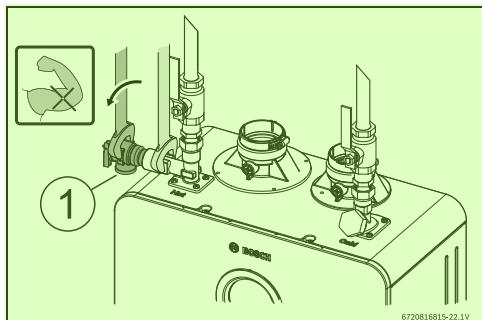

Fig. 27 Plumbing Connections (with shutoff valves) and 13 Pressure Relief Valve
- 4 11 ▶ Use the integrated port to install the PRV, see Fig. 27 [1].
- ▶ Tighten the PRV with the support of a wrench, see Fig. 27.
- Full port shutoff valves should be installed on both the cold water supply and hot water outlet lines to facilitate servicing the heater (see fig. 27).